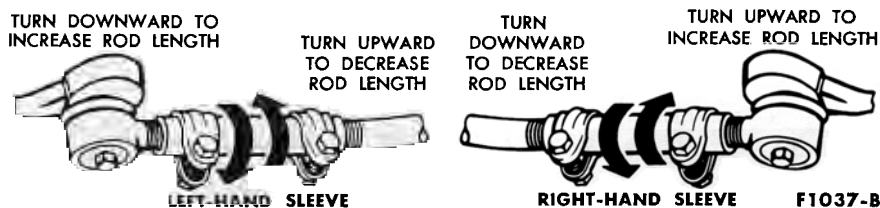

FIG. 10—Spindle Connecting Rod Adjustment
2. Adjust toe-in. If the steering wheel spokes are in their normal position, lengthen or shorten both rods equally to obtain correct toe-in (Fig. 10). If the steering wheel spokes are not in their normal position, make the necessary rod adjustments to obtain correct toe-in and steering wheel